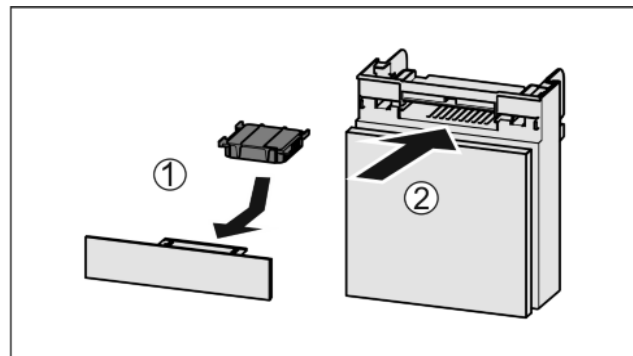

Fig. 42
- Insert the carbon filter as shown in the diagram Fig. 42 (1).
- Push the compartment in Fig. 42 (2).